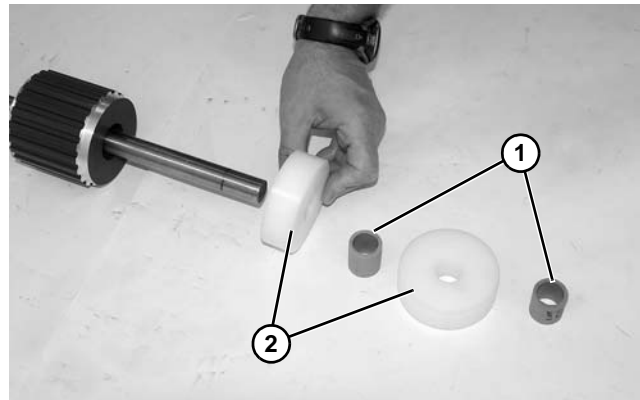

Figure 42
9. Remove spacers (**Figure 42, item 1**) and rollers (**Figure 42, item 2**) from both sides of the drive pulley shaft.